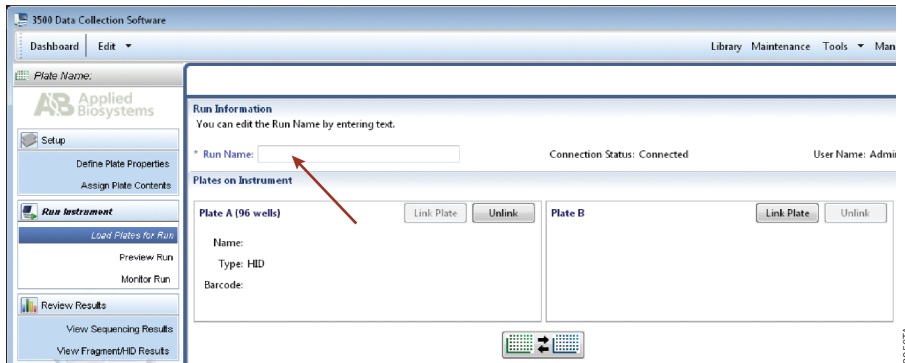

Figure 10. Assigning a run name.
18. In the Run Information window (Figure 10), assign a Run Name. Select **Start Run** (not shown).